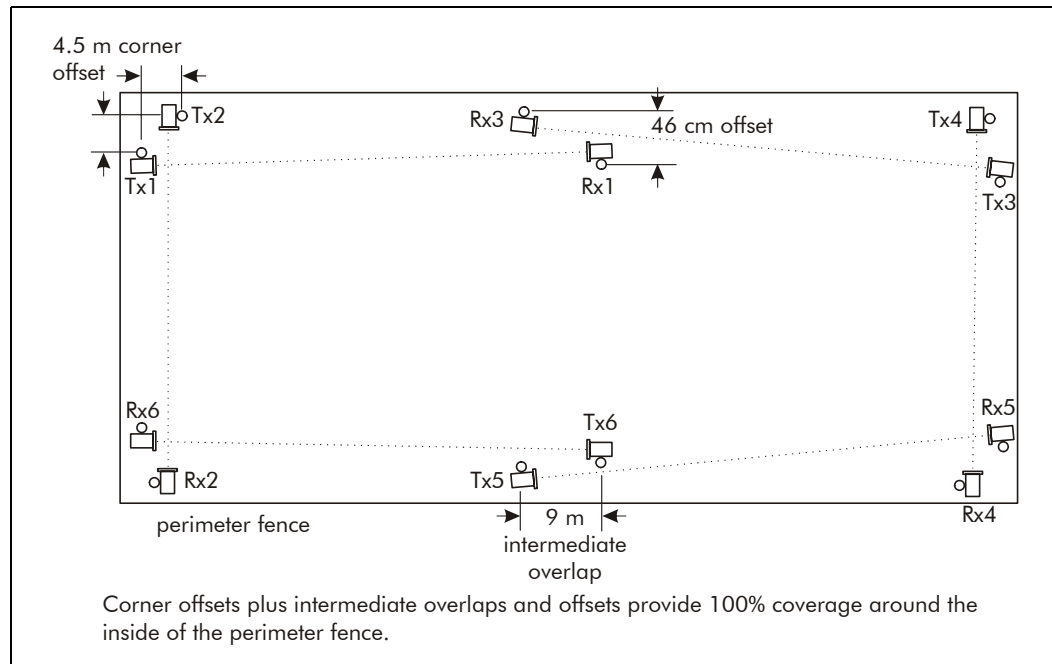

Figure 2-3 Perimeter layout (100% coverage)
*At each point of overlap either two Transmitters or two Receivers should be installed. This arrangement prevents an adjacent Transmitter and Receiver from establishing an unwanted link across the short overlap distance, which could result in a Jam or Wrong Channel indication at the Receiver (see Figure 2-3).*